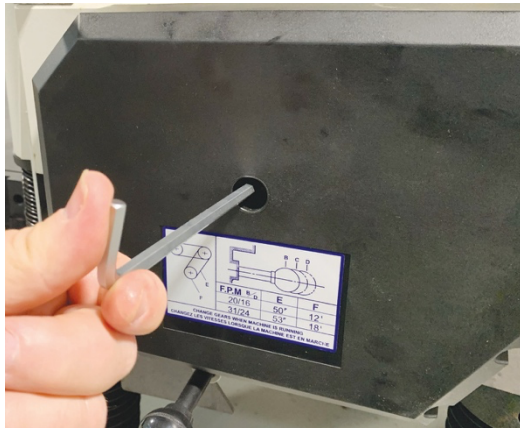

Figure 33
4. Using a 6mm hex wrench, remove gearbox cover mounting screw located in the center of cover (see Figure 33). With this screw removed, adjust the cover to allow the right-side safety plate to swing down freely. Remove the cover.